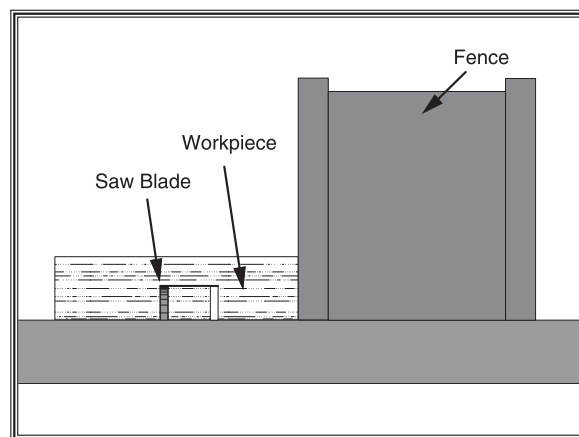

Figure 28. Single-blade dado second cut.
8. Re-adjust the fence so the blade is aligned with the other edge of the intended dado channel (**Figure 28**).